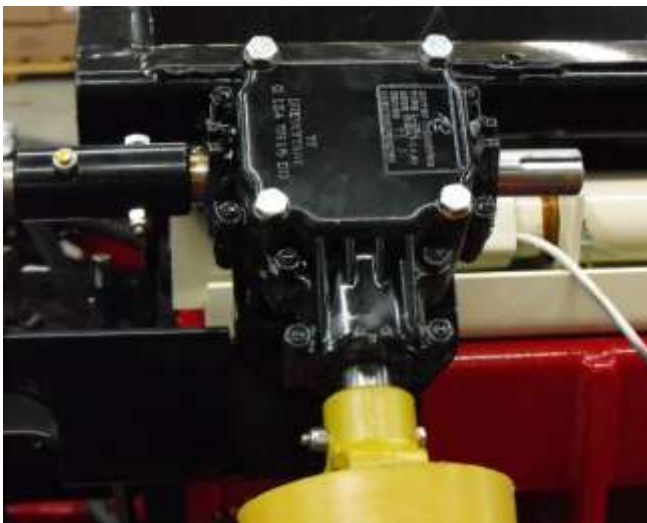

Figure 26
- ☞ The gearboxes located at the back [Figure 26] use NLGI 00 EP grease. Quantity: 0.35 kg
The maintenance of the rear gearbox [Figure 26] consist of verifying once a year the quality and the quantity of grease inside the gearbox. Please refer to the lubrication table to know the quantity and the specs of the grease.